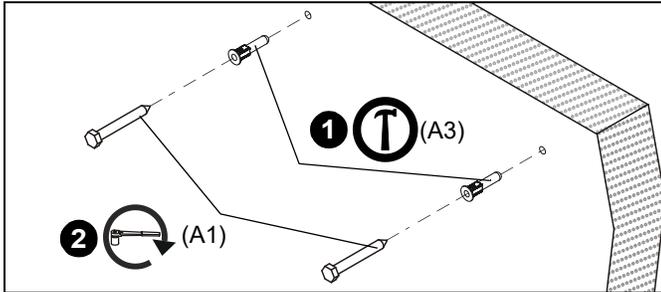

Figure 67
1. Install an anchor (A3) into each pilot hole using a hammer, making sure that the anchor is flush with the wall. (See Figure 67)